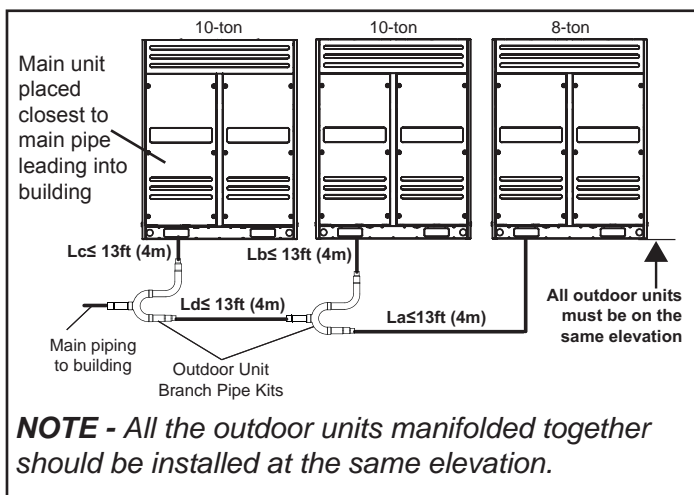

Figure 11. Main/Sub Unit Placement (28-Ton System Example)
- The largest capacity outdoor unit must be installed closest to the main pipe leading into the building. See figure 11.
- The largest capacity outdoor unit address is the main unit, while the others are the sub units. See figure 11.